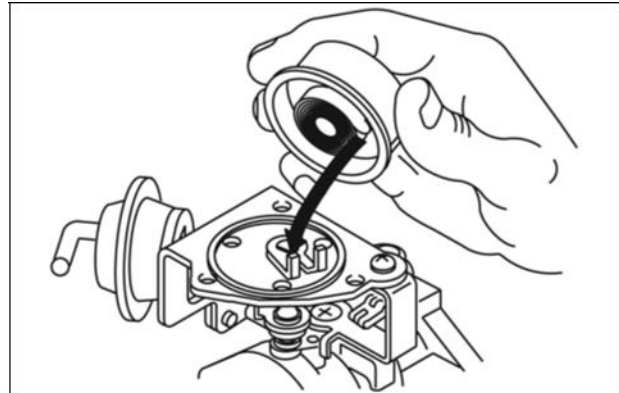

Figure 45
7. Install thermostat with new gasket (A, Figure 45).
8. Insert hook (B) on thermostat spring between arms on choke shaft.